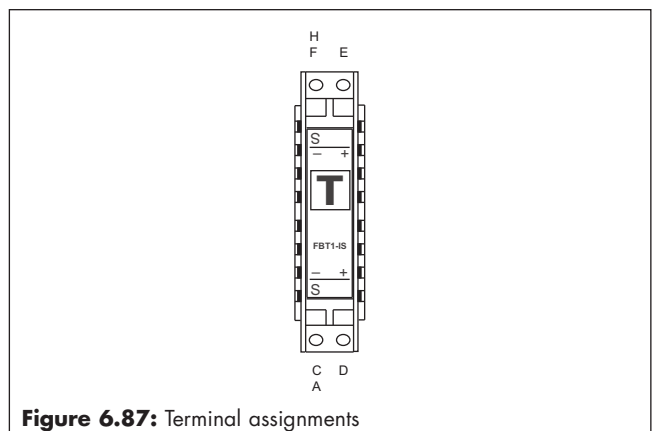

Figure 6.87: Terminal assignments
The +, - and cable screen (S) connections are indicated in Figure 6.87. The terminals will accept cables with a cross sectional area of up to 4 mm2. A straight blade screwdriver with a maximum blade width of 3.5 mm is required to operate the terminals. The recommended tightening torque is <0.9 Nm.